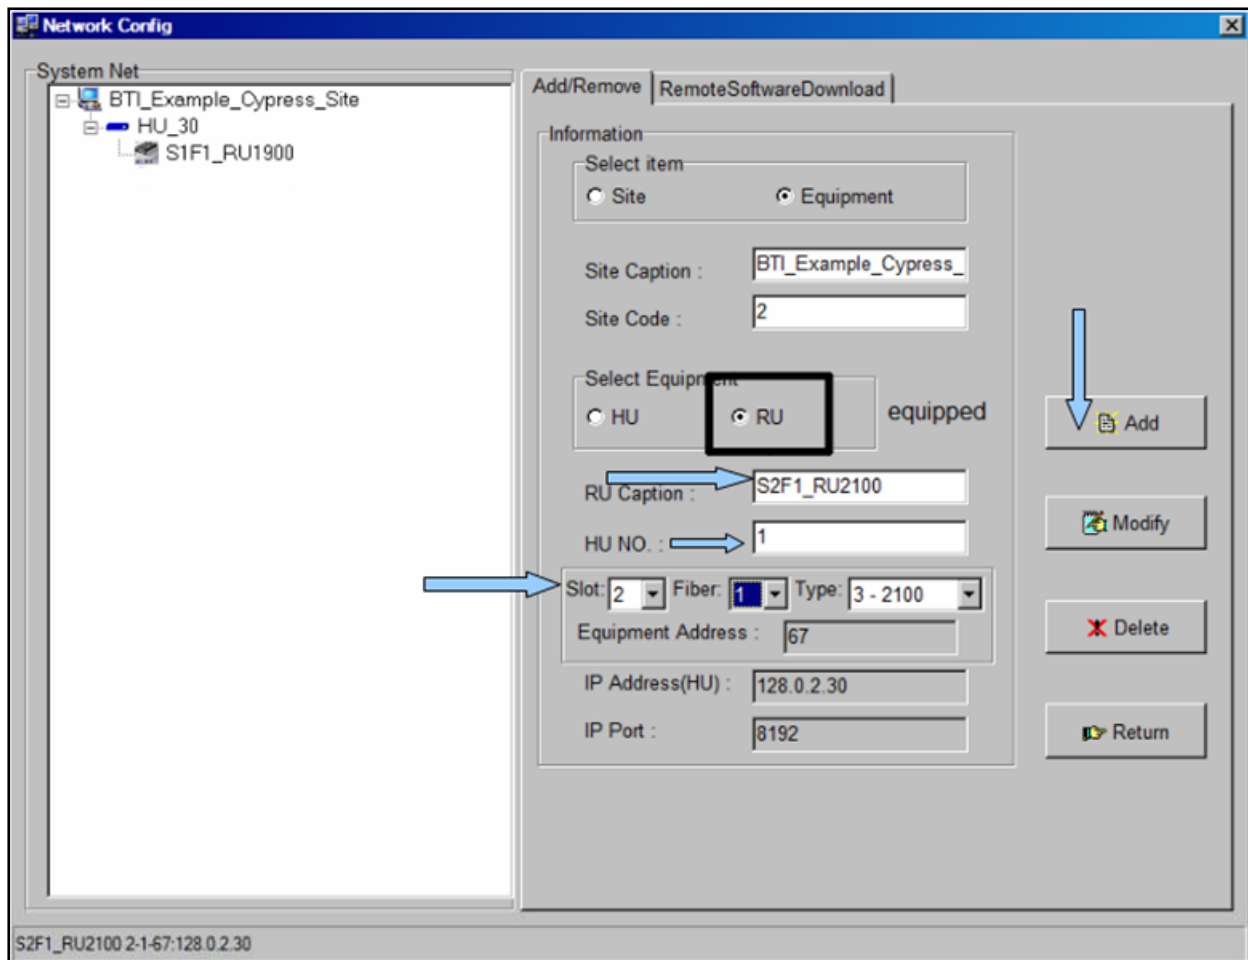

Figure 5-18. Adding a Slave Remote Unit
13. NMS creates a default name based on the chosen slot, fiber and type values selected as shown in **Figure 5-18**. Modify the Remote Unit Caption with a customer designated name, if desired.